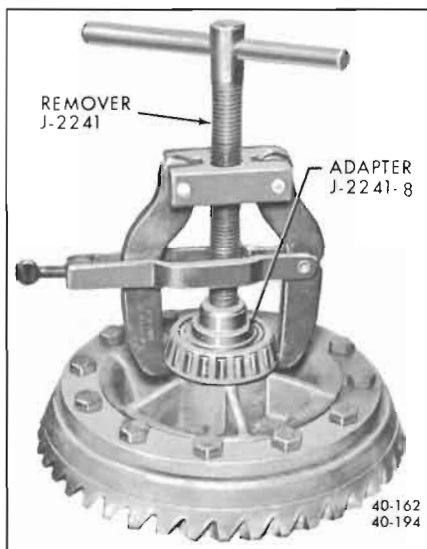

Figure 40-194—Removing Differential Side Bearing
2. If a differential side bearing is to be replaced, pull bearing from case using Remover Adapter J-2241-8 in center hole and Puller J-2241. See Figure 40-194.